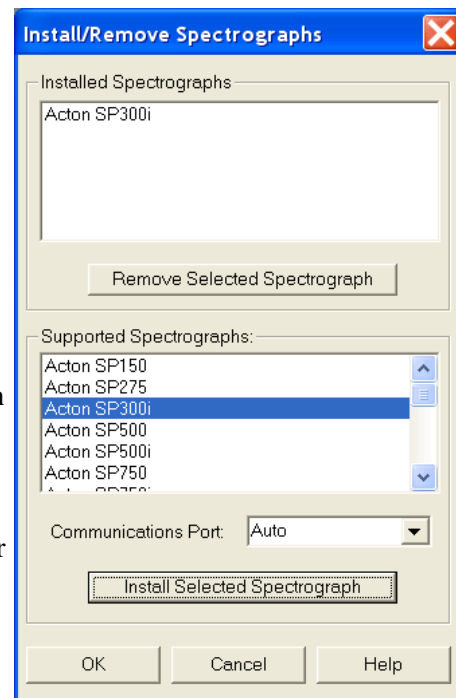

Figure 22. Install/Remove Spectrographs
6. Click on **Install/ Remove Spectrograph**. This will open the **Install/Remove Spectrographs** dialog (Figure 22). The lower window lists the supported Spectrographs. The upper window lists those installed. To install a spectrograph, select it from the list in the lower window, select the **Communications Port** (Auto, COM1-COM8, or DEMO) and click on **Install Selected Spectrograph**. The installed spectrograph will then appear in the upper window. In the case of the example shown in Figure 22, the selected spectrograph is an Acton SP300i. When selecting a communications port during the installation, keep in mind the characteristics of the choices.